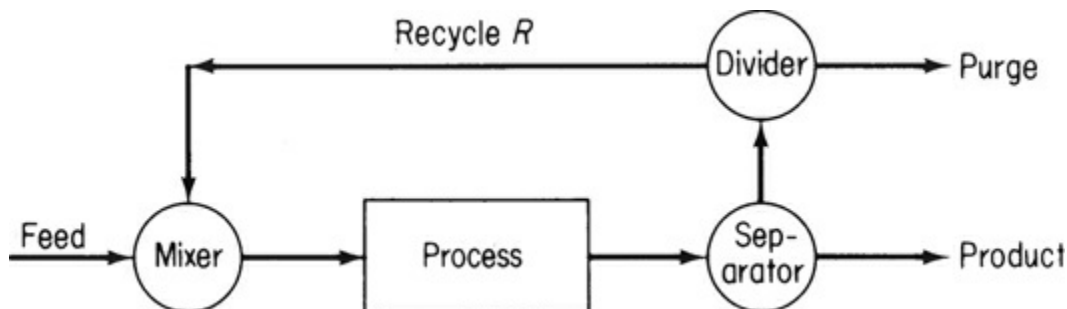

Figure 5.11 A process with a recycle stream with purge
2. A **purge** stream is a stream bled off from the process to remove an accumulation of inerts or unwanted material that might otherwise build up in the recycle stream with time of operation (Figure 5.11).